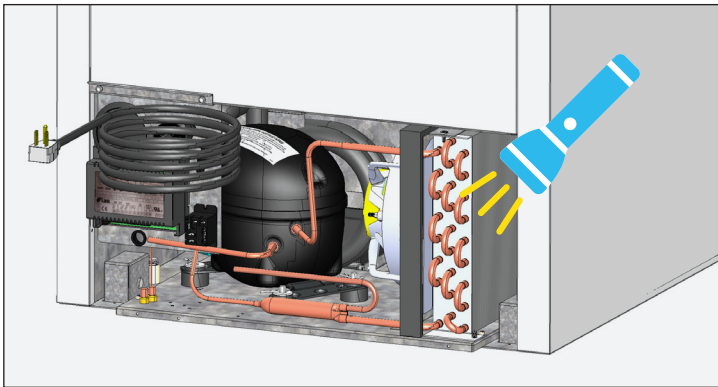

Fig. 3. Verify all blockages have been removed.
4. With dirt removed from the surface of the coil, use a flashlight to verify that you can see through the coil and observe the condenser fan blade spinning. See fig. 3.